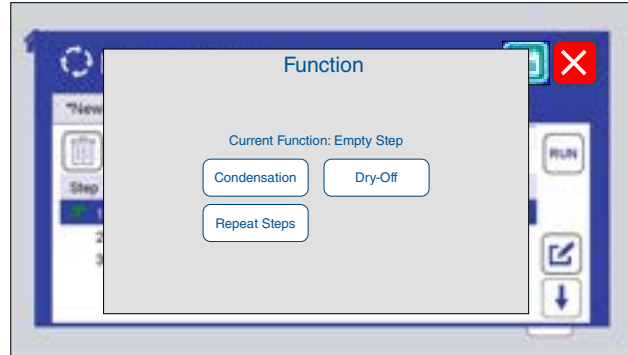

Figure 7: Functions are specified when adding steps to a cycle (Section 8.7).
- The operator can quickly create new cycles by specifying functions (Figure 7), or run any of the programmed cycles.